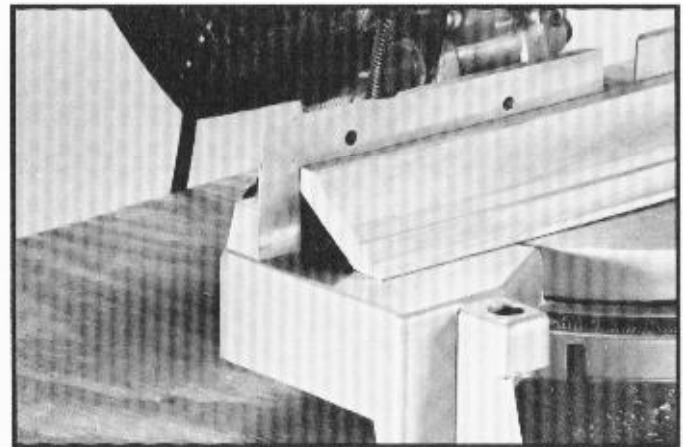

Fig. 49
1. There are several methods that can be used to cut crown mouldings on the miter box. The method shown in Fig. 49, illustrates the contact surfaces (the surfaces that contact the wall and ceiling) of the crown moulding held firmly against the fence and table of the miter box. This method is acceptable when making a small number of cuts but would not be practical for a production application as it may be difficult to firmly hold the work in this position.